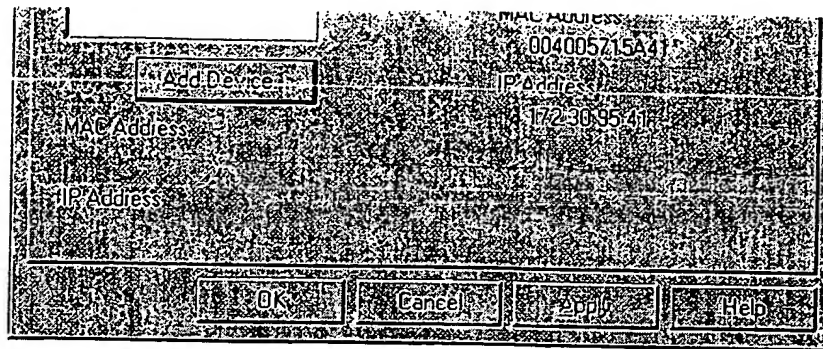

Figure 5. The Configure Remote Services dialog box, Ethernet tab
7. Select your device name and then select the arrow button. The device name appears in the **Current Device** box (see figure 5).